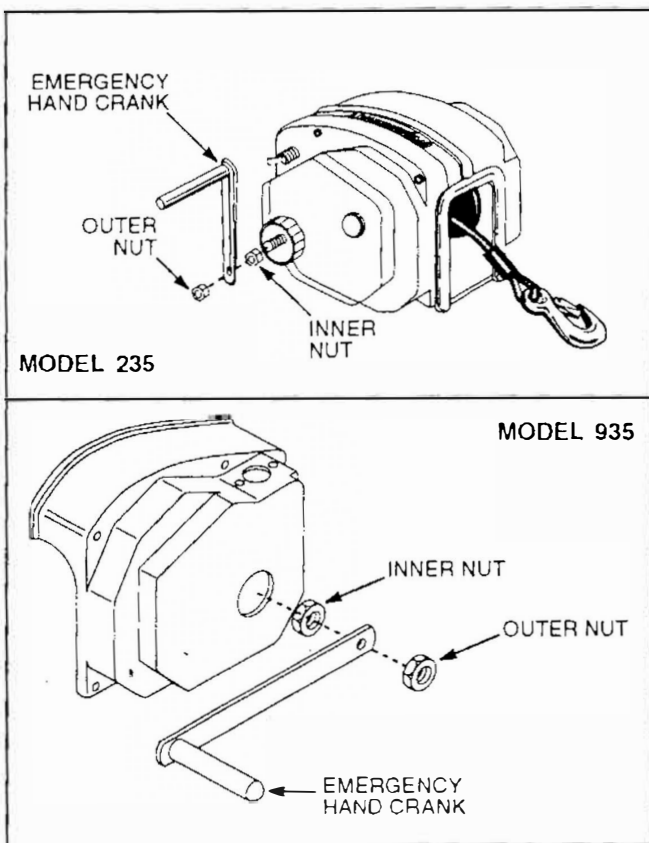

Figure 7 Emergency Hand Crank
1. Turn the clutch control knob clockwise until tight. **DO NOT** overtighten the knob or clutch damage will occur (See Figure 7).
2. Remove the outer nut shown in Figure 7 and place the emergency hand crank on the shaft.
1. Remove the outer nut shown in Figure 7 and remove the emergency hand crank off the shaft.